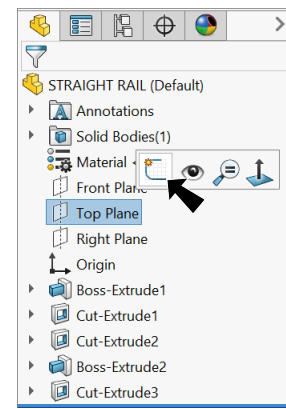

Fig. 30
Step 1. Click **Top Plane**  in the Feature Manager and click **Sketch**  on the context toolbar, **Fig. 30**.